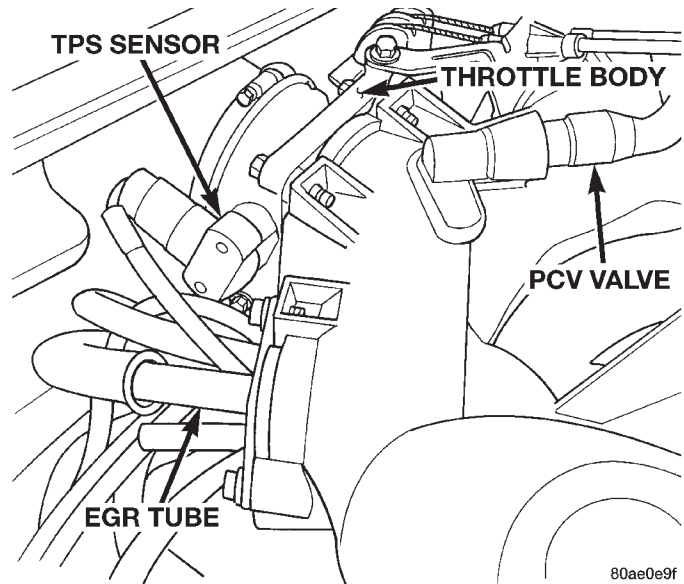

Fig. 50 Throttle Position Sensor—2.7L Engine
- (1) Disconnect the TPS electrical connector (Fig. 50).
- (2) Remove the TPS mounting screws.
- (3) Remove the TPS.
- (1) Disconnect the negative battery cable.
- (2) Disconnect the air plenum.
- (3) Disconnect the TPS electrical connector (Fig. 50).
- (4) Remove the TPS mounting screws.
- (5) Remove the TPS.
- (2) Disconnect the TPS electrical connector (Fig. 50).
- (3) Remove the TPS mounting screws.
- (4) Remove the TPS.